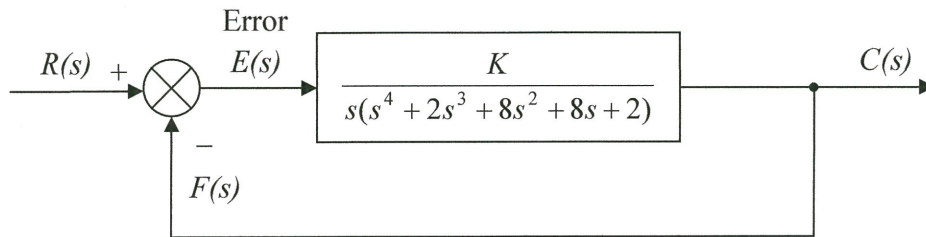

Figure Q5(b)
- (b) The simplified form of a block diagram for a position servomechanism is shown in Figure Q5(b).